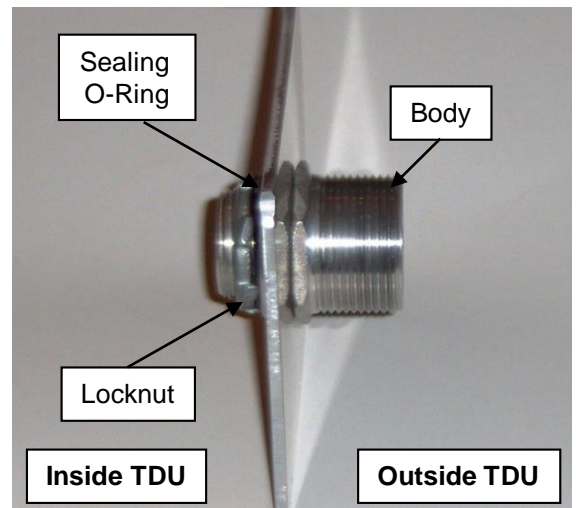

Figure 4
6.7 Use appropriate size wrenches and tighten Locknut to firmly secure Kellems Grip body to TDU. See Fig. 4.